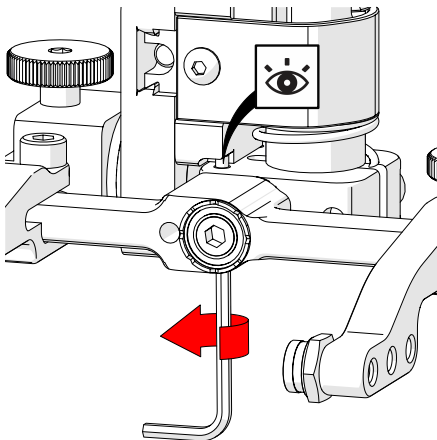

Fig. 143 - Raise opposite 90° stop post
8. Raise the stop post on the opposite side until the side of the post contacts the 90° stop point on the probe holder's base (Fig. 143).